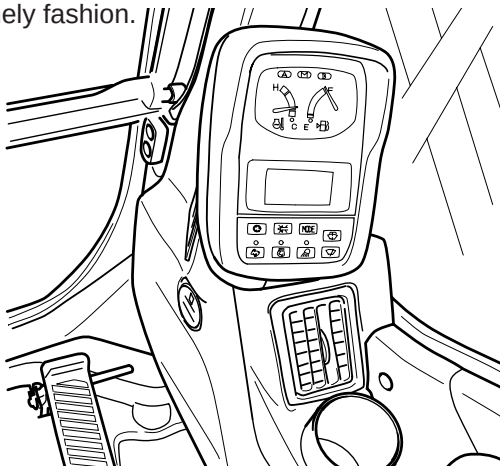

FIGURE 2.29
8. L.C.D. Display- FIGURE 2.29